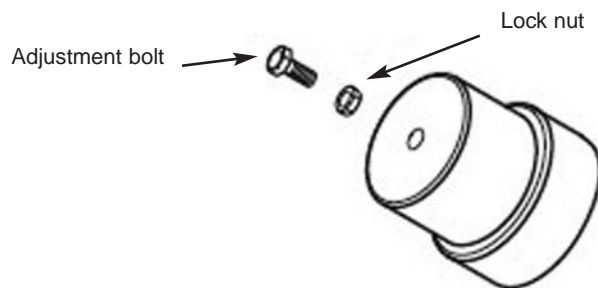

Figure 5-3 Air/Oxygen Pressure Regulators Adjustment
- 11 To adjust the Air Inlet Pressure Regulator, use a $5/16$ ” open-ended wrench to loosen the bottom lock nut (see Figure 5-3). Using a $1/4$ ” open-ended wrench, rotate the top adjustment bolt to adjust the pressure. Rotate the bolt clockwise to increase the pressure and counter clockwise to decrease the pressure. When the value of “**Air Gas Supply**” is 15.5 ± 0.5 psig, secure the bottom lock nut.